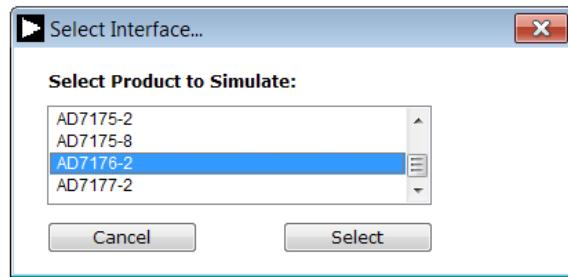

Figure 18. **Evaluation Board Selection Simulation**
4. The **AD717x Eval+** can also be used without connecting hardware. Click the **Simulation** button and the options shown in Figure 18 appear. The **Simulation** mode uses a software model and allows the **AD7172-2, AD7172-4, AD7173-8, AD7175-2, AD7175-8, AD7176-2, or AD7177-2** to be evaluated.